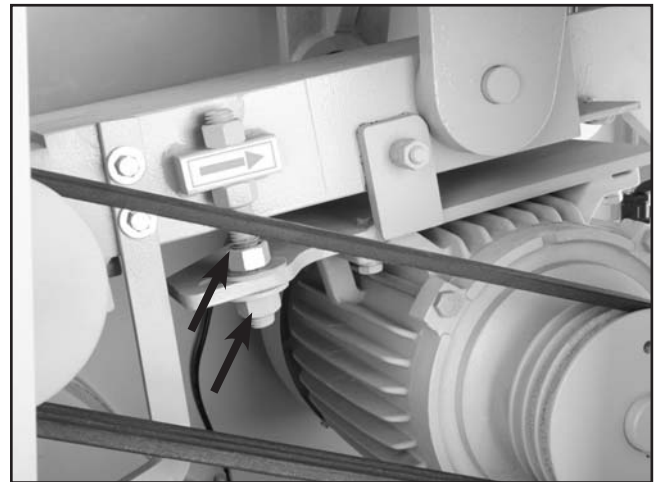

Figure 51. Motor mount nuts.
3. Loosen the motor mount nuts shown in **Figure 51**.